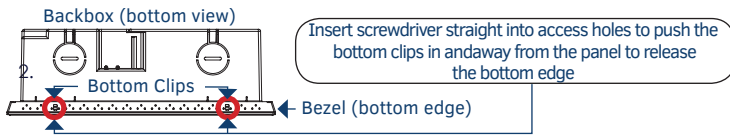

FIG. 6 MD-702/BACKBOX ASSEMBLY - BOTTOM VIEW
1. With a small flathead screwdriver, carefully press straight into the access holes on the bottom of the bezel (near the center of the bottom tabs) to disconnect the two bottom clips (FIG. 6):